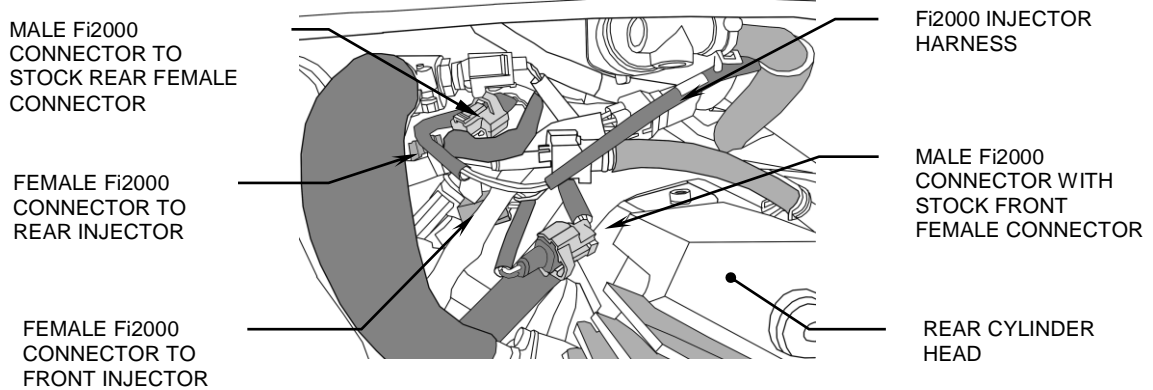

FIGURE 2
3. Locate the front and rear injectors and remove stock female connector from front injector, see Figure 2. On Fi2000 injector harness use the longer of the two connector pairs and install the Fi2000 female connector onto the front injector. Install the corresponding male Fi2000 connector into the stock front female injector connector. Repeat for rear injector using the short pair of Fi2000 connectors. Be sure female connectors seat properly on injectors and the stock connectors are fully pressed together with the Fi2000 male connectors. Tuck these connectors out of the way and lower the fuel tank. Secure Fi2000 harness to left frame rail with 6" zip tie.